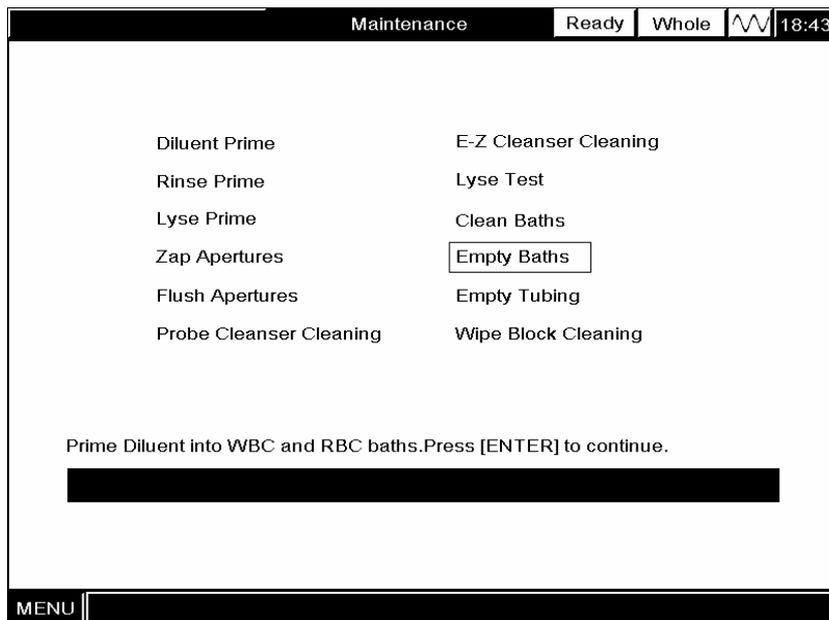

Figure10-21 Priming the baths with diluent
3. When the draining is done, check the baths and the tubing below them for residual fluid. If there is no fluid, press [ENTER] to prime the baths with diluent, as Figure10-21 shows. When the priming is done, the screen displays “**Empty Baths End**”.